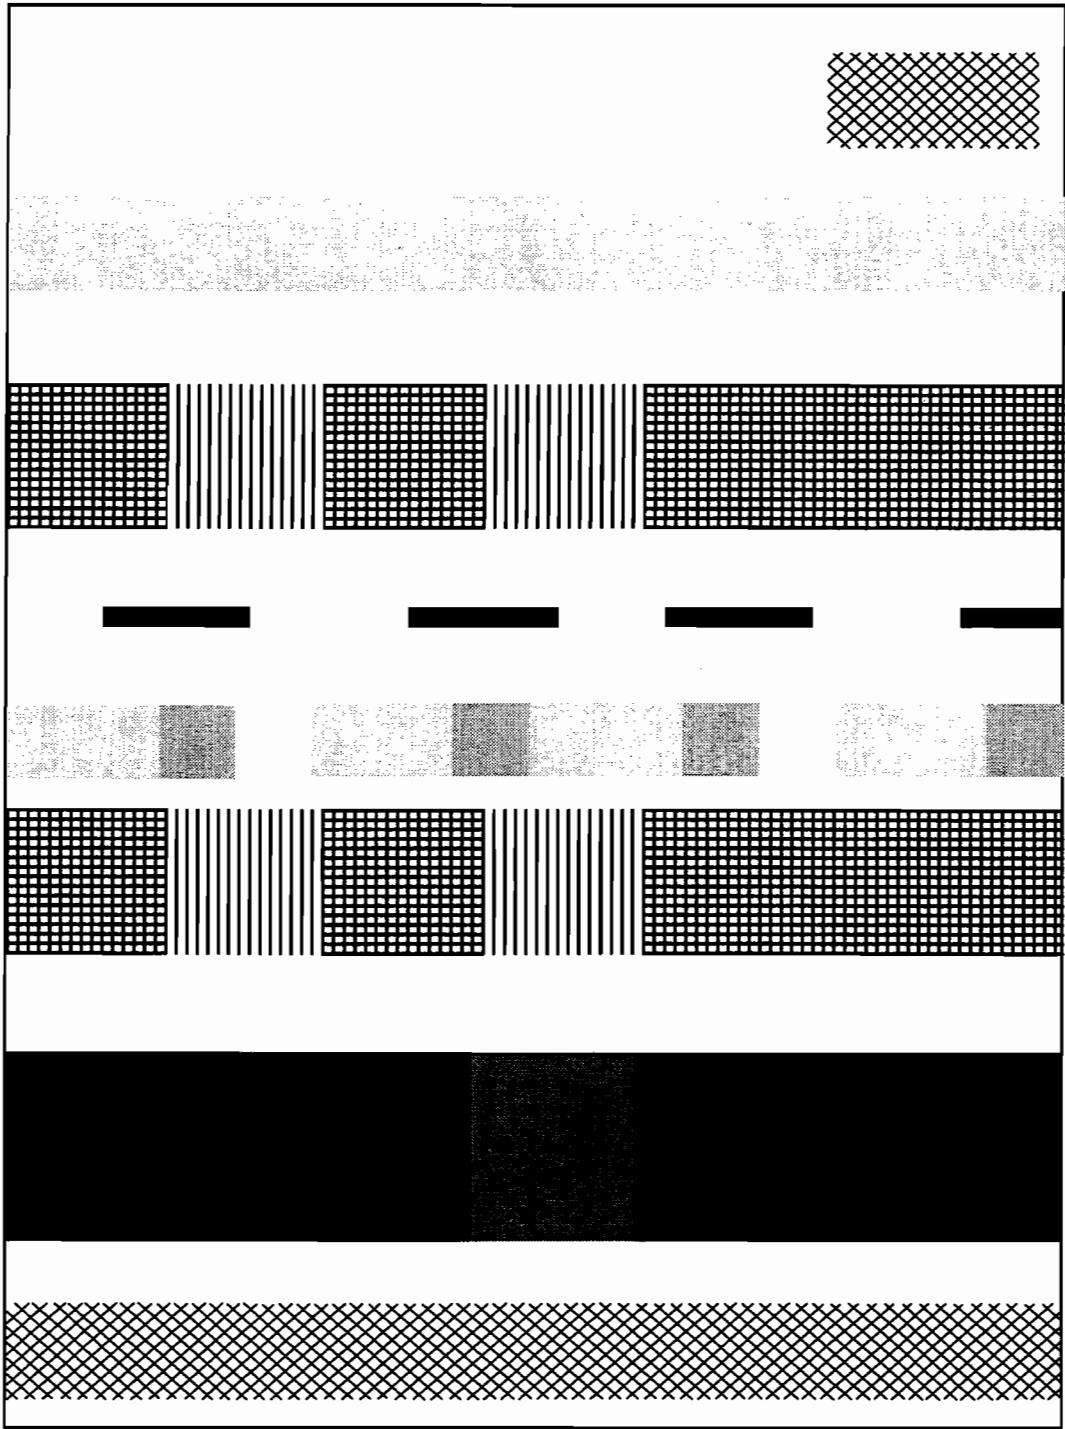

Figure 8-14. Performance Plot
7. The performance plot will be generated. See Figure 8-14.